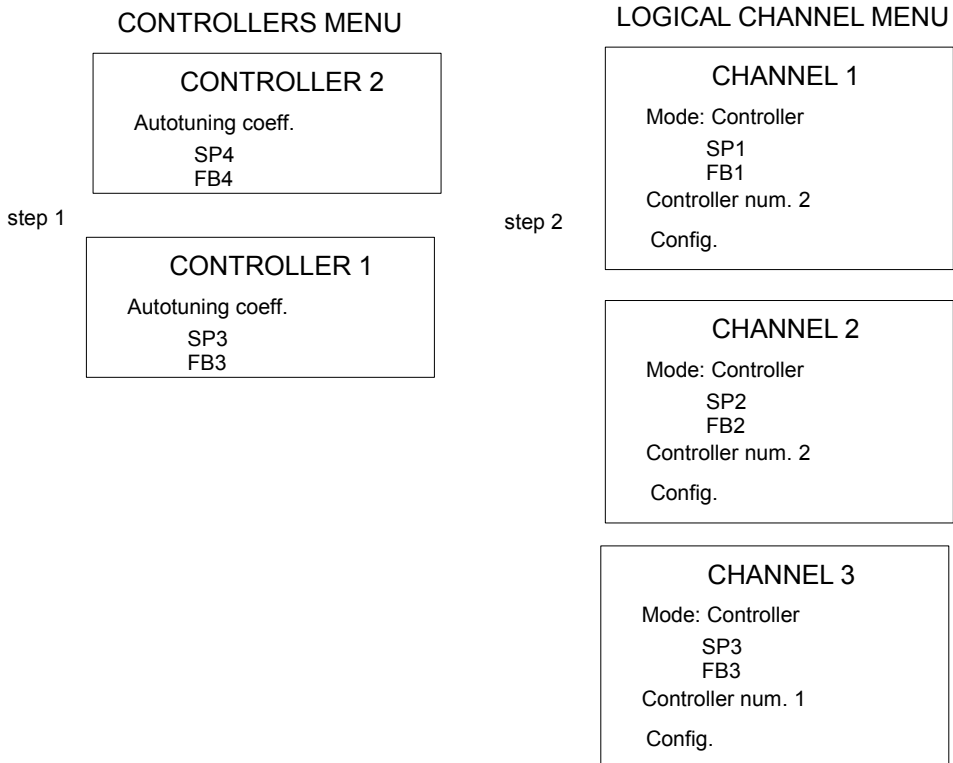

Fig. 7.122. Configuration diagram of the **Controller** using Controller Menu
- through the menu Controllers in the Device Configuration menu (see **Fig. 7.122**),